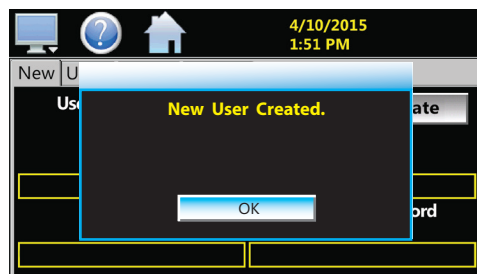

Fig. 26: New User Created Confirmation
14. When a new USER is created, a pop-up confirmation will appear that says "New User Created." Press OK (Fig. 26).